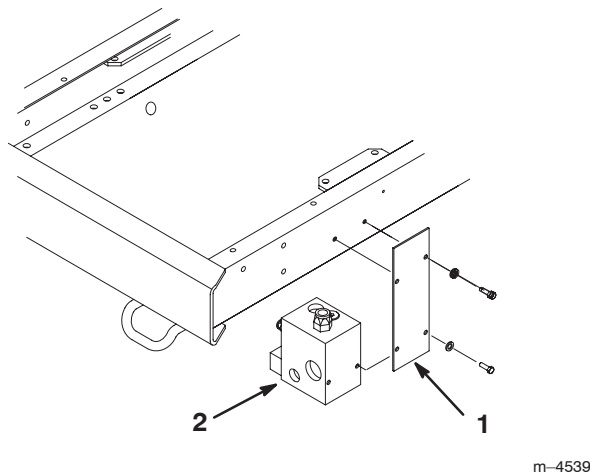

Figure 8
7. Attach the block bracket to the frame with two 5/16–18 x 3/4" lg. self-tapping screws and washers (Fig. 8).
11. Attach the control block to the block bracket using two 5/16–18 x 5/8" lg. screws and washers (Fig. 8).